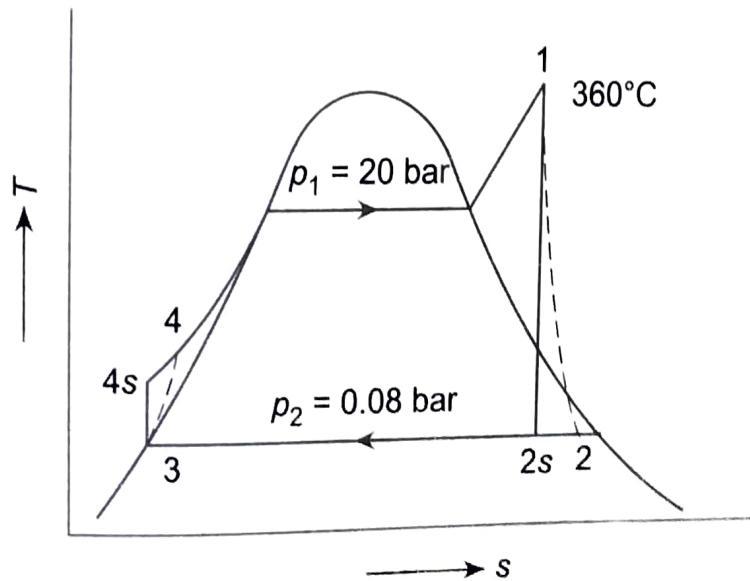

Fig. 12.41
**Solution** The property values at different state points (Fig. 12.41) found from the steam tables are given below.